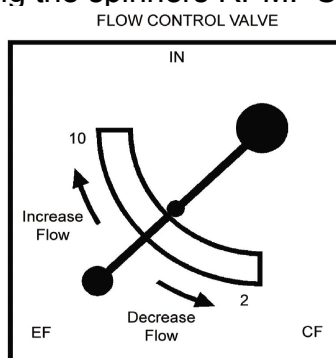

Fig 5
2. Run the tractor until the oil has reached operating temperature and then increase the tractor engine to full throttle and adjust the spreader flow valve so that the spinners are running at the desired RPM see Fig 5 below. (To check the spinner RPM you will need a rev counter.)
3. When the spinners are running at the 900 RPM with the tractor at full throttle, the tractor engine speed should be lowered to where the spinners drop below 700RPM. At this point make note of this lower tractor engine speed, as you can work from this engine speed up to full throttle without altering the spinners RPM. See fig 5 below.